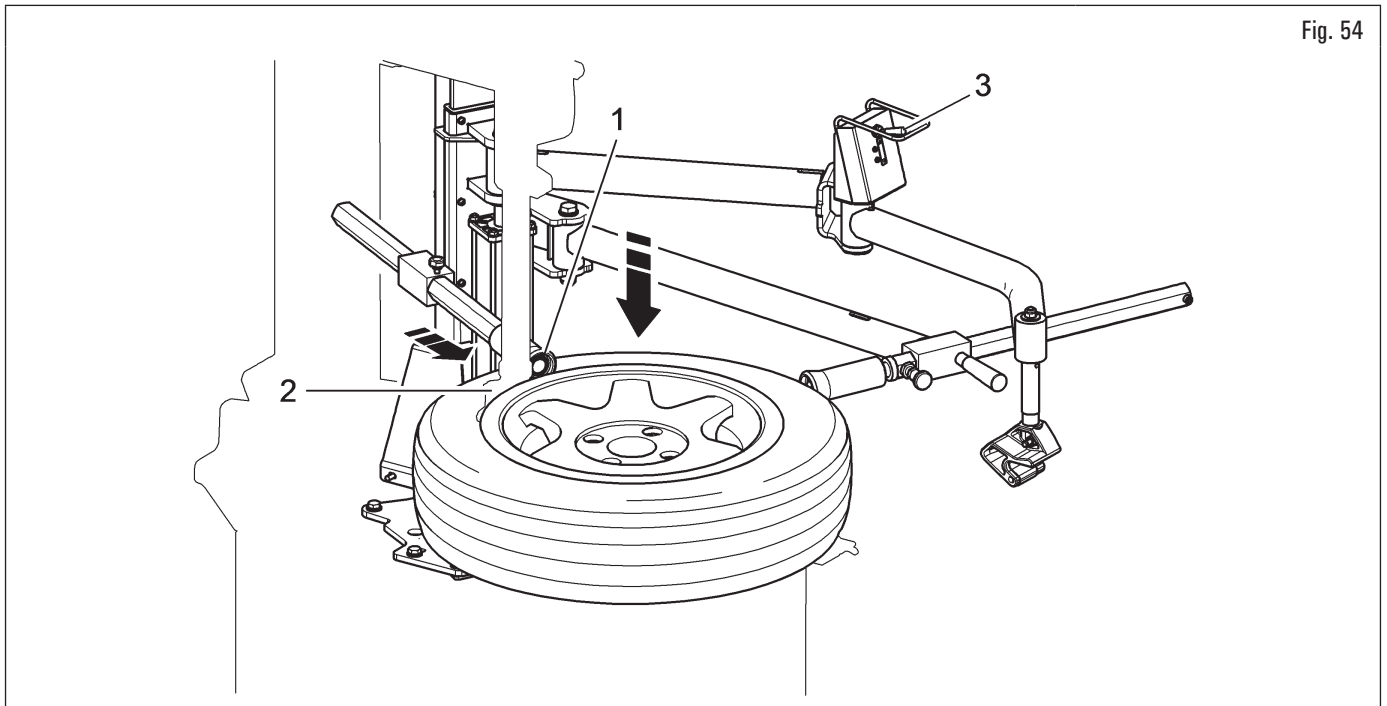

Fig. 54
1. place the bead press roller (Fig. 54 ref. 1), as shown in figure, near the toolhead (Fig. 54 ref. 2). Lower the tyre using the bead press roller (Fig. 54 ref. 1) (lowering the relevant lever of the control unit (Fig. 54 ref. 3)), to allow an easy positioning of the toolhead on the rim edge (Fig. 54 ref. 2). Then block the toolhead;